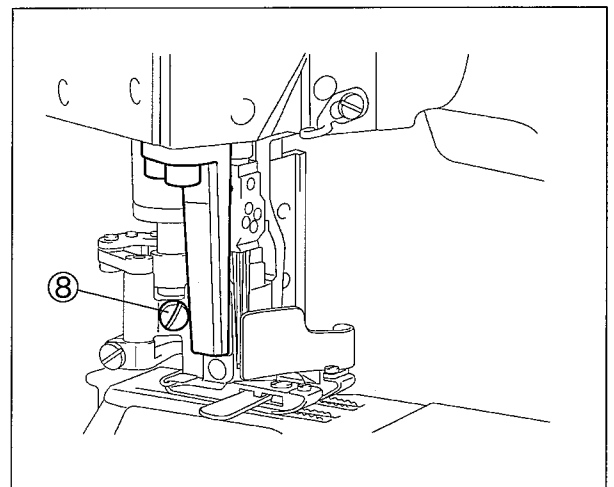

Fig. 6-31
- (1) Remove all needles and the seal plug ①.
- (2) Remove the adjusting screw ② and then the screw ③ of the presser bar connecting bracket.
- (3) Loosen the screw ④ of the knife holder guide collar to be free the complete set including the upper knife, the knife holder, and the knife holder shank.
- (4) Loosen two screws ⑦ of the knife holder bracket ⑥ to remove the knife holder guide collar, c. set ⑤ and the upper knife.
- (5) Loosen the screw ⑧ on the back of the presser foot. (on the left side on “-07” and “-12” models: Fig. 6-31)